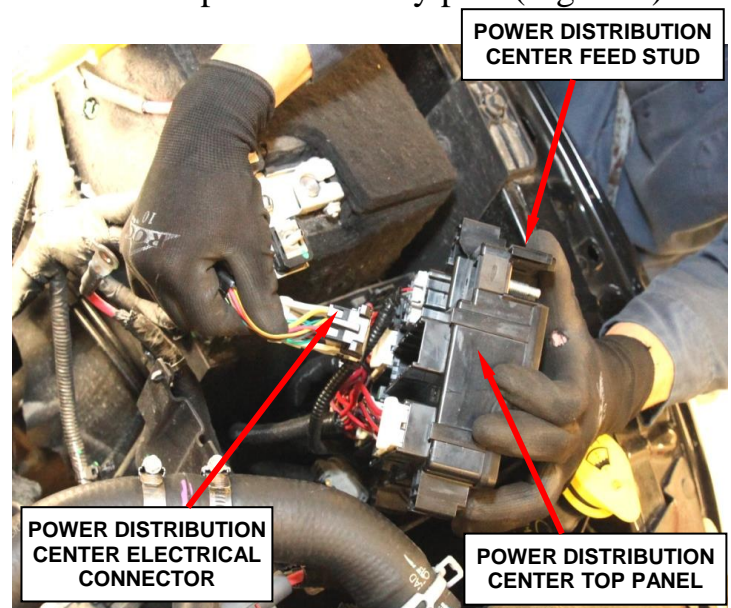

Figure 4 – PDC Electrical Connections
6. Disconnect the PDC battery B+ feed wire from the PDC feed stud (Figure 4).
7. Separate the PDC top panel from the PDC housing and disconnect the PDC electrical connector (Figure 4).
54. Connect the Power Distribution Center (PDC) electrical connector to the bottom of the PDC top panel (Figure 4).